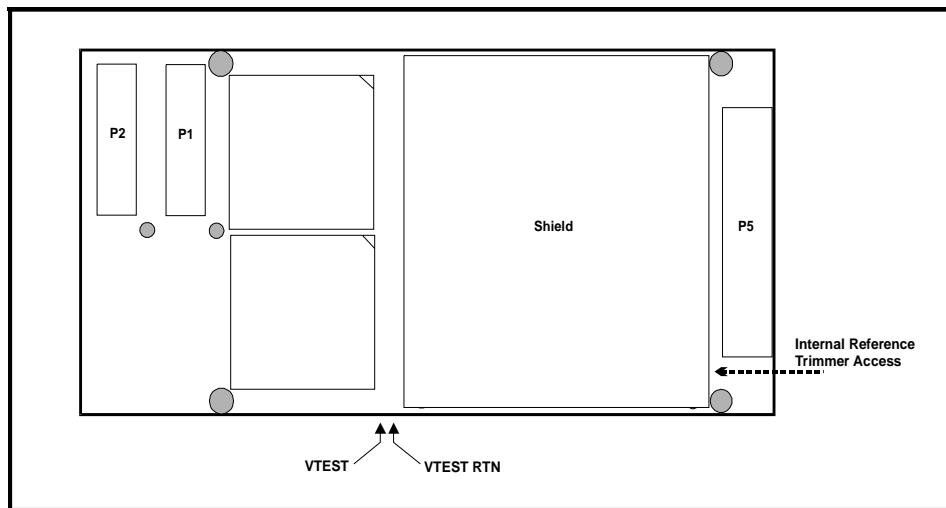

Figure 2.5-1. Reference Adjustment Access
The following procedure describes the verification of the single reference voltage that ensures conformance to the product specification. Adjustment of the internal reference, if necessary, is performed with an internal trimpot that is accessible from the front of the board, as shown in Figure 2.5-1. Two right-angle 0.024-inch pins provide side-access to the VTEST and VTEST RTN test points.
1. Connect the digital multimeter between the VTEST (+) and VTEST RTN (-) pins at the edge of the board (Figure 2.5-1). Reverse the test leads if a negative voltage is indicated.